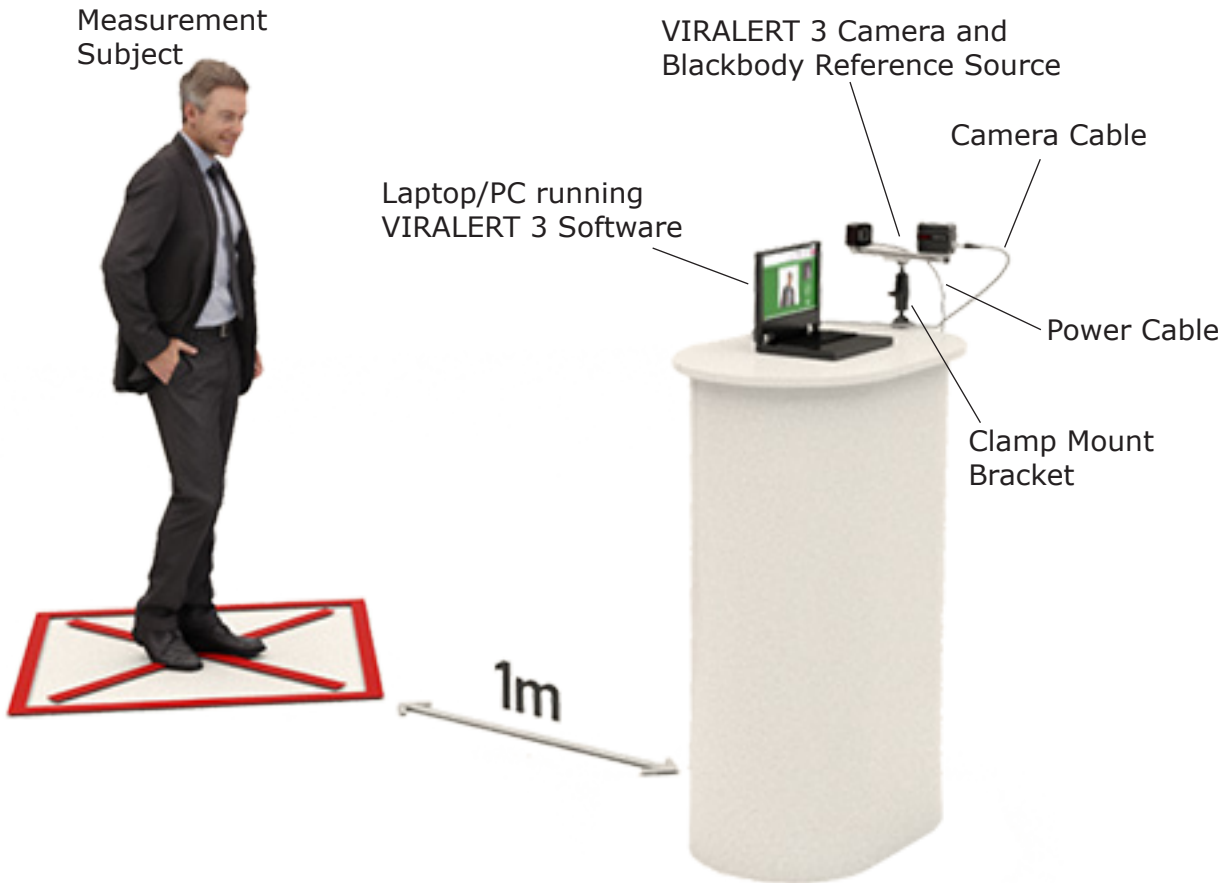

Fig. 2-1 VIRALERT 3 Typical System Overview
- 2) There must be space to install the VIRALERT 3 so that the Measurement Subject can face the Screening System from a distance of 1 m/3ft, as shown in Fig. 2-1.